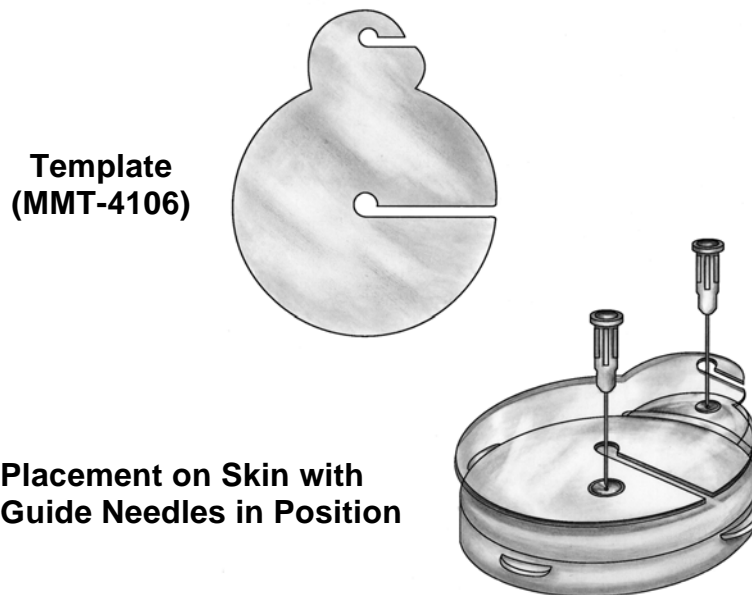

Figure 15: Template and placement
2. To locate the Pump fill port, located in the center of the Pump, align the sterile template (MMT-4106) over the Pump by palpating the Pump circumference. Then insert an 18 gauge needle into the central Pump fill port as shown in Figure 15 above.